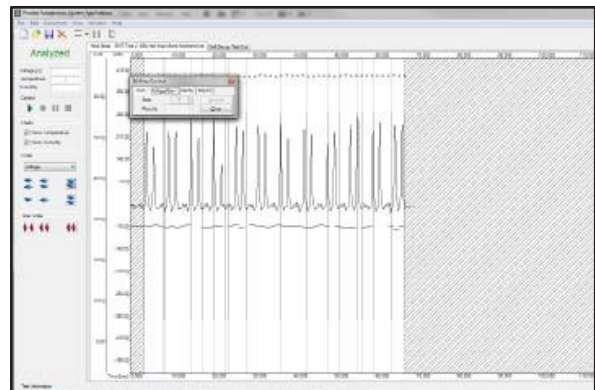

Figure 22: Representative number of Cycles entered in Voltage Generation
4. Click the **Voltage Gen** tab and enter the number of step cycles or measurement peaks between the trim points on the chart and press **Analyze**. If a clear number of peaks are entered and the program confirms through its algorithm, it will display a series of **Min** and **Max** peaks with vertical lines for each step cycle as shown in Figure 22.